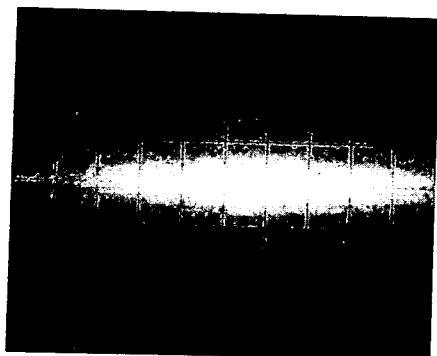

Figure 5-4. Waveform at A12Q11 Source.
- g. Adjust potentiometer A12R1 until dc level of displayed waveform is 0mV \pm 10mV. Refer to Figure 5-4 which shows well-adjusted waveform.